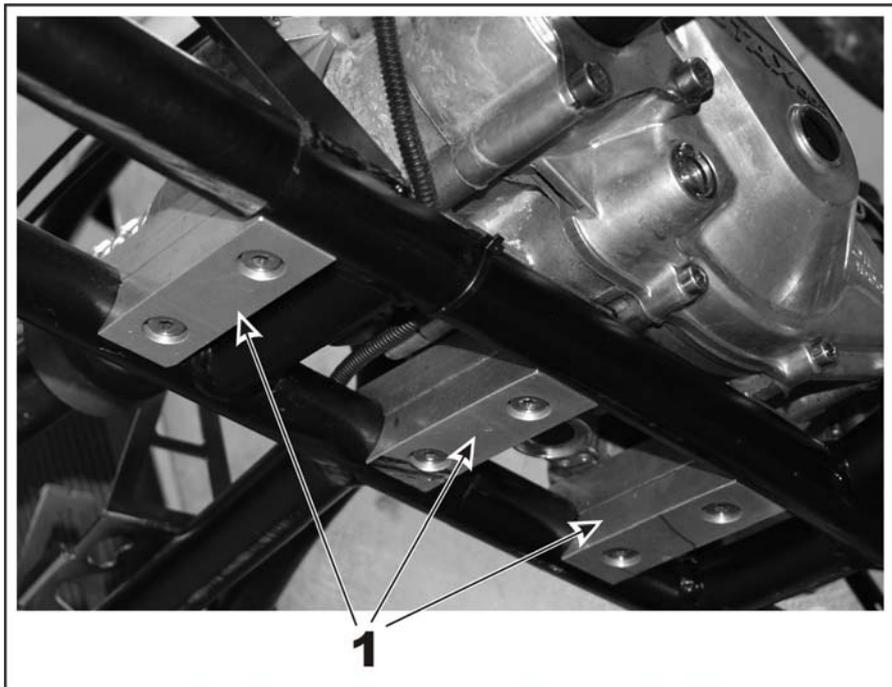

Fig. 6
The engine has to be fixed to the chassis by means of 2 engine brackets (1) (Fig.6). Due to different distances of the 2 main rails of various chassis brands is the engine bracket not included in the content of delivery of Rotax.
➔ After engine alignment, tighten the 4 allen screws M8 x 25 to fix the upper engine bracket to the engine with 28 Nm (248 lbf.in.). Fix and tighten the lower engine bracket to the upper bracket with 4 allen screws M8 x 30 with 22 Nm (195 lbf.in.). see Fig.6